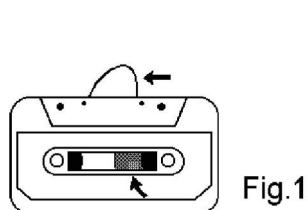
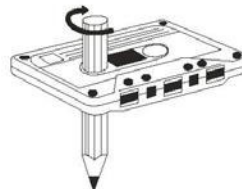

Fig.1
Fig. 2
- Check that there are no loose layers of tape visible through the cassette center window (see Fig. 1). Take up any loose layers, using a pencil or hexagonal barreled ballpoint pen, before inserting the cassette into the machine (see Fig.2)
- If the cassette feels tight while performing operation shown (see Fig.2), the tape may be jamming due to ridges formed in the winding of the tape (visible through the center window). These may be removed, in most cases, by fast winding of the cassette from one end to the other and back again.